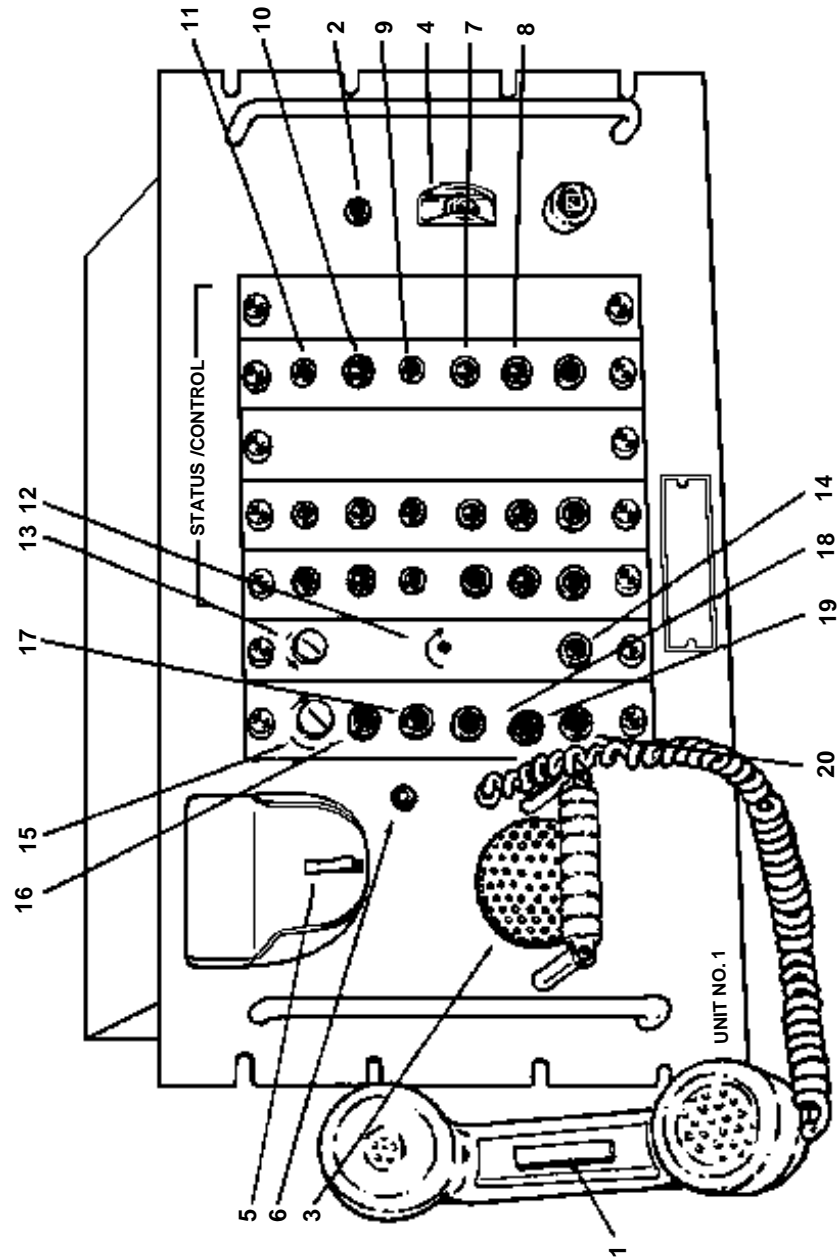

FIG 2-1
The GRN-29 remote control/display unit (RC/DU) (Fig 2-1) permits air traffic control personnel to monitor and determine the operating status of the AN/GRN-29 (V) SSILS. The RC/DU provides the status of the Primary functional groups of the localizer, glideslope and up to three marker beacon stations. It also provides voice communication and localizer identification with the various components of the SSILS via a telephone handset. To initiate a call lift the handset from its cradle and press the intercom assembly switch corresponding to the equipment site to be called. To reset the intercom, put the handset back in the cradle. An incoming call is signaled by a tone over the speaker. To receive a call, lift the handset and press the push -to- talk switch to transmit release the switch to receive.
| Handset push-to-talk switch | Enables amplifier for intercom talk function. (1, Fig 2-1) |
| Power lamp | Power on lamp. (2, Fig 2-1) |
| Speaker | Aural alarm Speaker. (3, Fig 2-1) |
| Power (ON/OFF) | Power supply on/off switch. (4, Fig 2-1) |
| Handset on hook switch | Rearms call detecting circuits upon completion of call. (5, Fig 2-1) |
| Bulb test switch | Spring-loaded toggle switch, when pressed, lights all lamps. (6, Fig 2-1) |
| EXEC BYP lamp | Amber; lights to indicate equipment site action has bypassed remote control function. (7, Fig 2-1) |
| ABNL lamp | Amber; lights to indicate abnormal status, flashes to indicate Loss of monitor tone output (monitor bypassed). (8, Fig 2-1) |
| OFF lamp | Red; lights to indicate equipment site transmitter are shut off. (9, Fig 2-1) |
| STBY lamp | Amber; lights to indicate standby transmitter group in operation. (10, Fig 2-1) |
| Alarm volume control | Screwdriver adjustment controls volume of incoming status alarm and intercom ring signals. (12, Fig 2-1) |
| Dimmer control | Controls brightness of decoder/control assembly MAIN lamp. (13, Fig 2-1) |
| Alarm SILENCE switch | Silences alarm indication from loudspeaker. (14, Fig 2-1) |
| Phone Vol Control | Adjusts telephone handset volume level. (15, Fig 2-1) |
| Loc Switch | Localizes site intercom call switch. (16, Fig 2-1) |
| GS Switch | Glideslope site intercom call switch. (17, Fig 2-1) |
| Inner MKR Switch | Inner marker site intercom call switch. (18, Fig 2-1) |
| Middle MKR Switch | Middle marker site intercom call switch. (19, Fig 2-1) |
| Outer MKR Switch | Outer marker site intercom call switch. (20, Fig 2-1) |